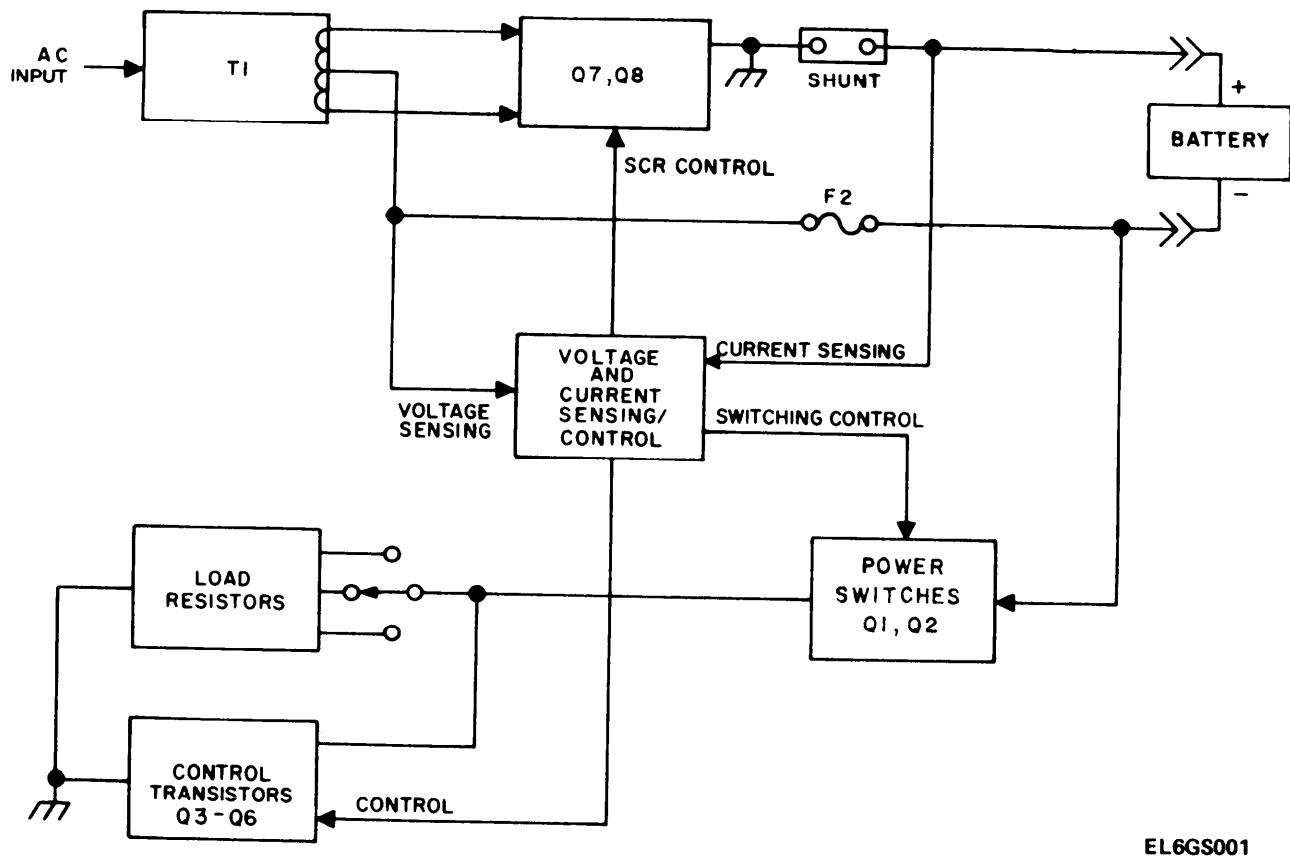
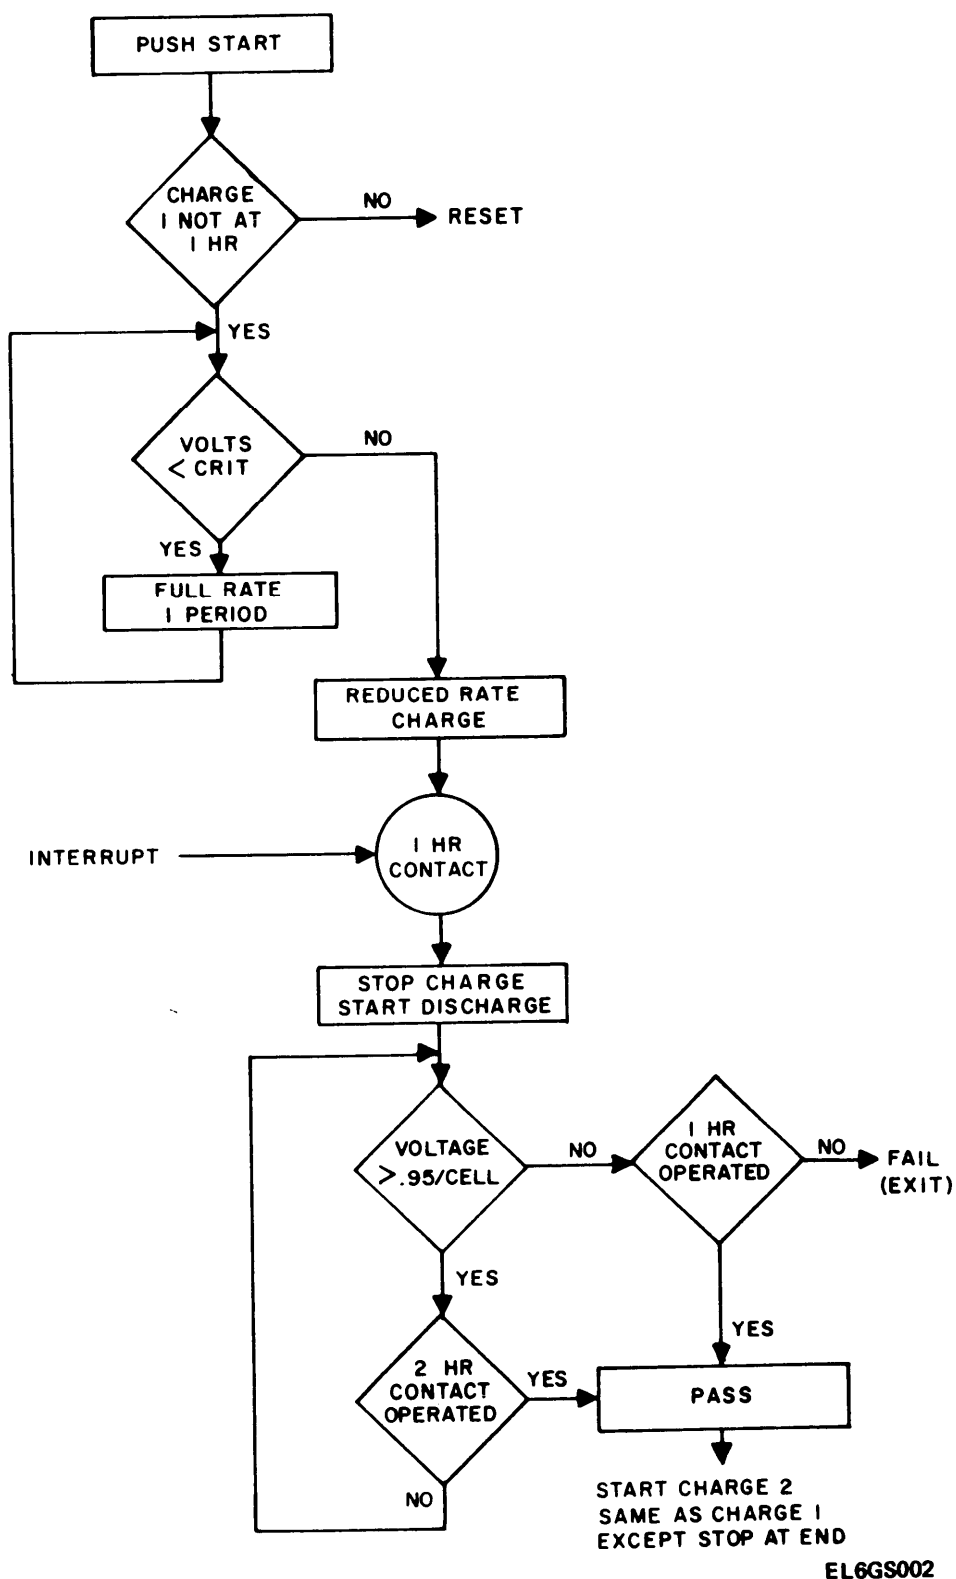

Figure 2-1. Charger-Analyzer, Functional Block Diagram.
Figure 2-2. Timing and Control Functions, Logic Diagram.
(fig. 2-1)
Figure 2-1 is a functional block diagram of the charger-analyzer, showing input and output power and battery connections, general circuit board logic and related switching. Figure 2-2 is a simplified logic diagram showing the timing and control functions, Figure FO-1 is a schematic diagram of the charger-analyzer. Basic functions, charge, discharge, timing and control, are as follows:
*a. Battery Charge.* As shown in figure 2-1, the battery charger circuits include power transformer T1 and power switching and output voltage control SCR's, Q7 and Q8. This is a pulse-type charger with both SCR's connected in a full-wave circuit with zero-cross-over gating. Current pulses from the shunt, R17, are integrated and compared with the average rate set by the front panel CHARGE AMP HR control. When pulses equal or exceed the average charging rate desired, the SCR gates are held off until the next period begins. There are 120 counts in each cycle and each gate is  $\frac{1}{2}$  of a 60 Hz period ( $120/120=1$  second per period). During this initial step of charging, the battery is below the critical voltage and it can accept very high charging currents without heating appreciably. This characteristic is useful because the critical voltage is reached earlier in the cycle as a battery ages. Once the critical voltage is reached, the charging rate is reduced to about one fifth of the initial rate, and it might require completion of only about 15% of the charge with fresh cells; or 25% or more of the charge with older cells to reach critical voltage. For this reason batteries are charged at a rate well above the "straight line" one